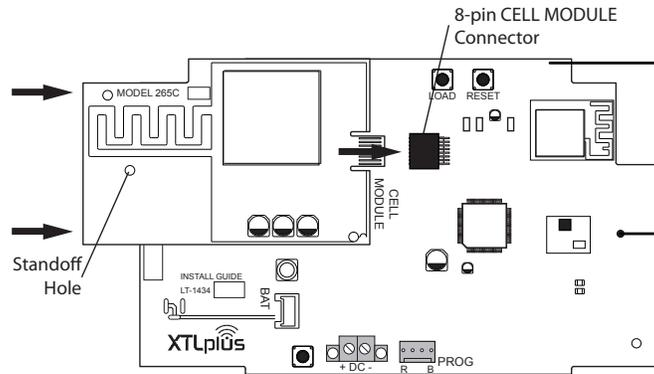

Figure 6: 265C Installed on the XTLplus
1. Avoiding a sharp angle and keeping the 265C PCB parallel to the XTLplus PCB, slide the 265C PCB into the XTLplus 8-pin CELL MODULE connector. Apply even pressure to the end of the 265C PCB to fully seat the module. See Figure 6.